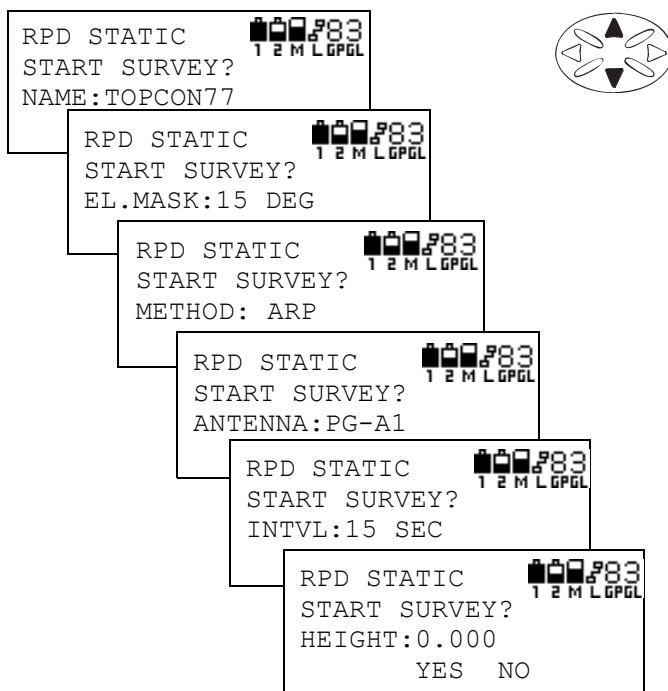

Figure 3-40. Check Parameters
9. To check parameters, use the **up/down cursor** to scroll through the available parameters (Figure 3-40).